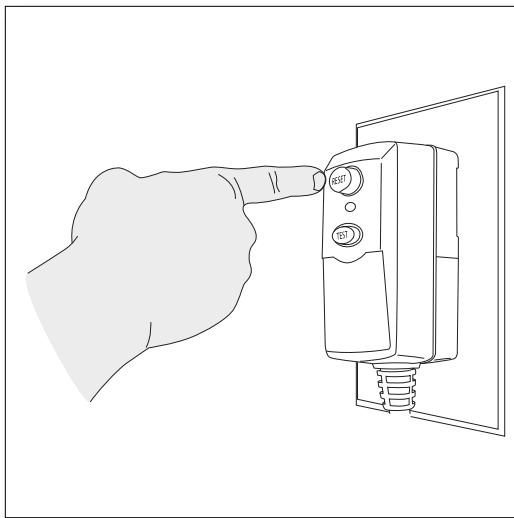

Fig. 21
- Unwind the power cord completely and plug the GFCI into a grounded 120 volt outlet. Press the ‘reset’ button on the GFCI box (Fig. 21). The indicator window should show a red color. This must be done each time the unit is plugged in.